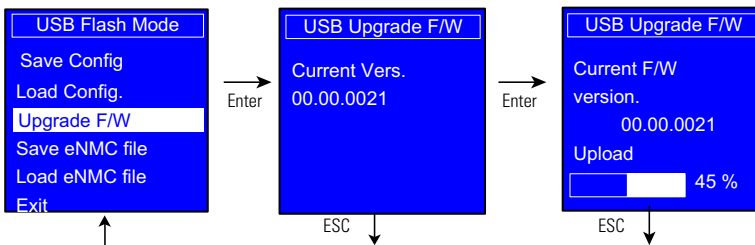

Figure 60. Example Upgrade in Progress
9. A few seconds after 100% is reached, the eNMC module restarts and then enters in Boot upgrade mode to continue upgrade. The upgrade is finished when eNMC module is restarted. This can take several minutes (see Figure 60).